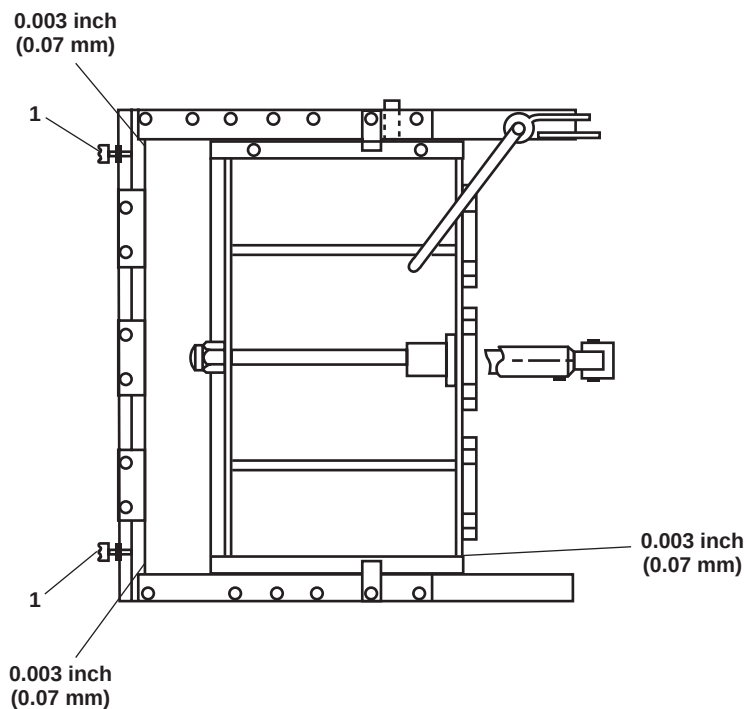

Figure 1. Adjust Hydraulic Watertight Door
2. If the door sticks or if the clearance is exceeded, adjust the clearance by turning the set bolts (figure 1, item 1) in or out to obtain the required clearance.